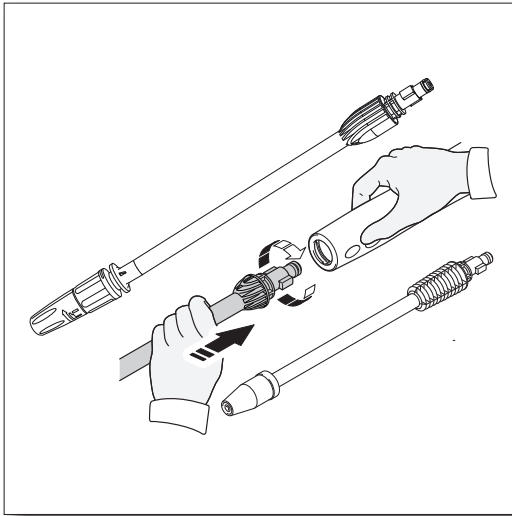

Fig. 9
- While the spray gun is in the locked position, insert the high/low nozzle lance or turbo nozzle into the end of the spray gun by inserting and pushing together turning clockwise simultaneously. To remove push together and turn counter clockwise (**Fig. 9**).